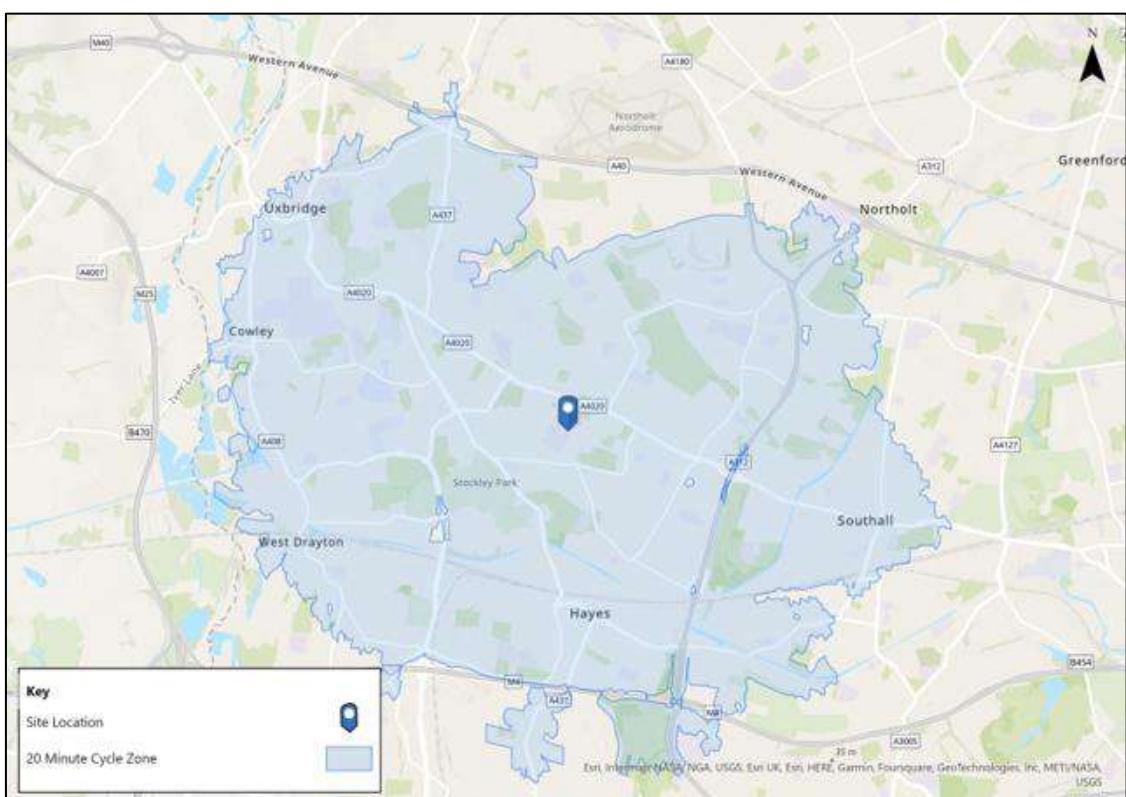

Figure 2.4: 20-minute Cycling Isochrone
2.17 **Figure 2.4** shows a 20-minute cycle from the site, which demonstrates that Southall, Cowley, Uxbridge, West Drayton and Hayes are all within cycling distance. This therefore demonstrates that cycling is and will be feasible for many pupils and staff.